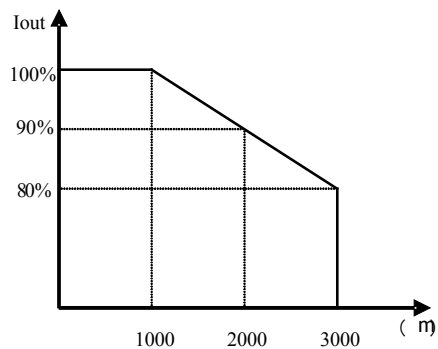

Figure 3-2 Derating drive's output current with altitude
- Derating must be considered when the drive is installed at high altitude (greater than 1000m). This is because the cooling effect of drive is deteriorated due to the thin air, as shown in Figure 3-2 that indicates the relationship between the elevation and rated current of the drive.